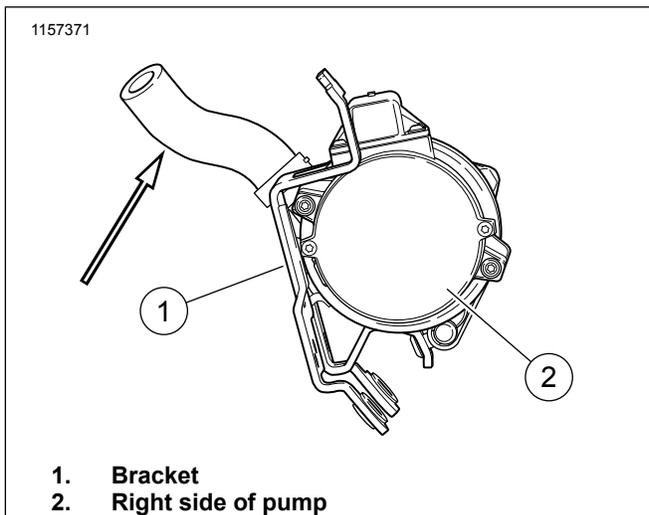

Figure 7. Orientation of Pump to Engine Hose
10. See Figure 7. Align pump to engine hose.